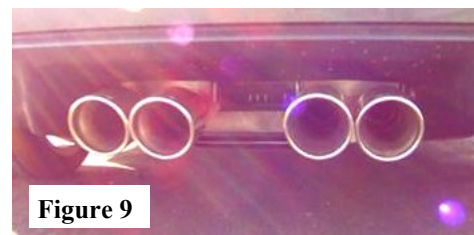

Figure 9
5. Align tips and tighten hardware. Loosen clamps to rotate or slide pipe for better alignment. (See Fig. 9)